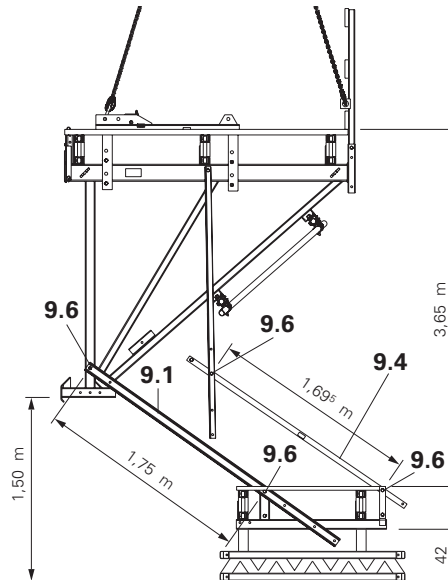

Fig. B1.28.1
4. Bolt Platform Post 225 (9.1) to post extension 180 (9.2) and fix at an angle with bolt (9.6) to the bracket and finishing platform. (Fig. B1.26) Depending on the concreting height, use top or bottom hole, see Fig. B1.28.1 – B1.28.4.
5. Fix the Guardrail Post 190 (9.4) or Guardrail Post 370 (9.5) to Guardrail Post 300 (9.3) at an angle using bolt (9.6). Depending on the concreting height, use top or bottom hole, see Fig. B1.28.1 – B1.28.4, attach tension anchor (6.3/7.3).
(Fig. B1.28.1)